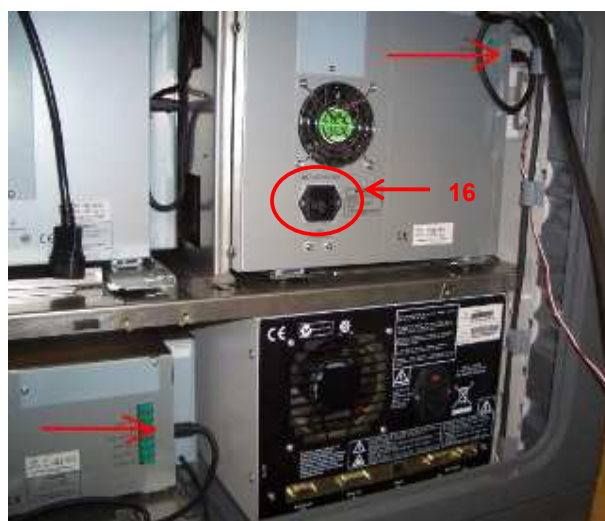

Figure 13: Connecting the FL detector using the E-line cable
13. Route the E-line cable from the Fluorescence Detector to the **BOTTOM** E-line connector on the Pump (Figure 13).
14. Install the power cable into the socket (16) on the Fluorescence Detector (Figure 13).